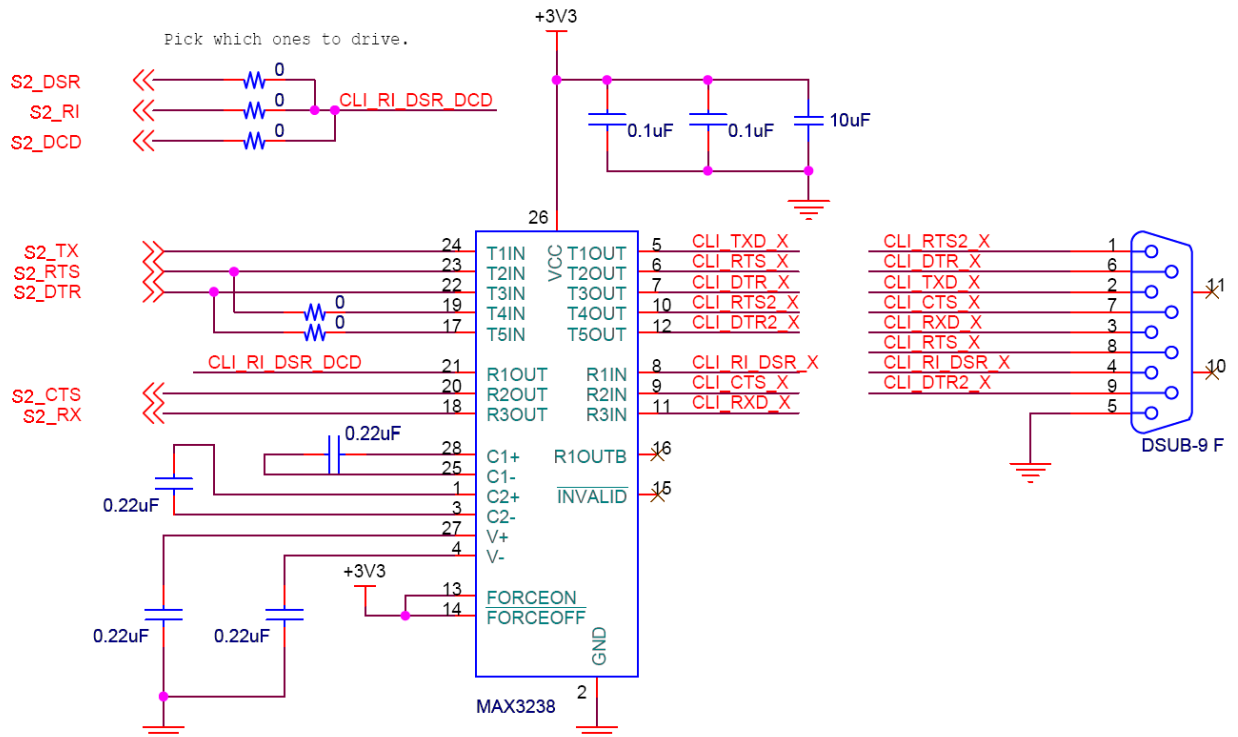

Figure 3 Serial 2 Application Circuit
- Figure 3 Serial 2 Application Circuit8